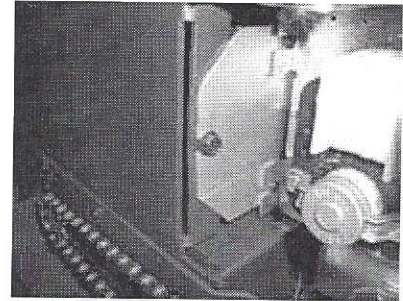

Fig. 1
Step 4 - Loosen the mounting bolts located on either side of the Convection Fan. *Note: For some fans you may need to remove one bolt completely. (See Fig. 1)